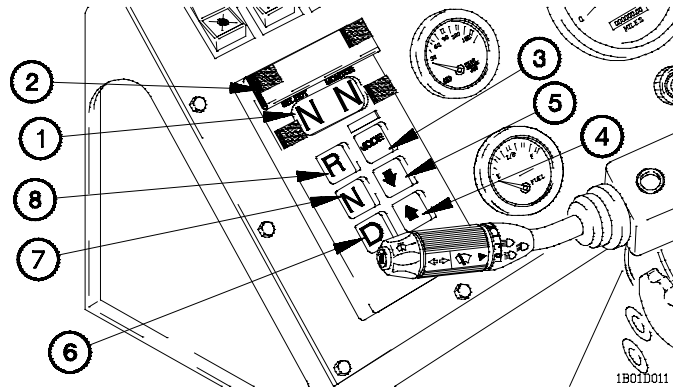

Figure 2-4. WTEC II Transmission ECU Pushbutton Shift Selector (TEPSS)
- 21. **WTEC II Transmission ECU Pushbutton Shift Selector (TEPSS).** Used to select forward or reverse range, to set highest gear range, to switch from highway to off-road mode, and to monitor transmission operation. Figure 2-4 shows all controls and indicators on the WTEC II TEPSS. Figure 2-5 shows all controls and indicators on the WTEC III Transmission Pushbutton Shift Selector (TPSS).
d. **WTEC II Transmission ECU Pushbutton Shift Selector (TEPSS).** Figure 2-4 shows all controls and indicators on the WTEC II TEPSS.